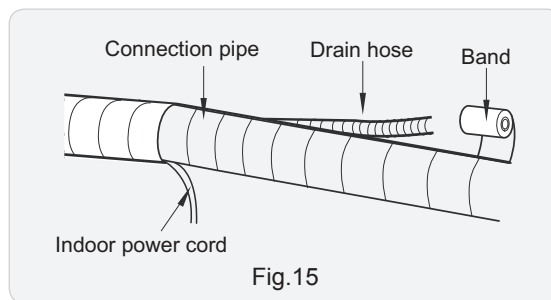

Fig.15
- (2) Reserve a certain length of drain hose and power cord for installation when binding them. When binding to a certain degree, separate the indoor power and then separate the drain hose. (As show in Fig.15)
- (3) Bind them evenly.
- (4) The liquid pipe and gas pipe should be bound separately at the end.